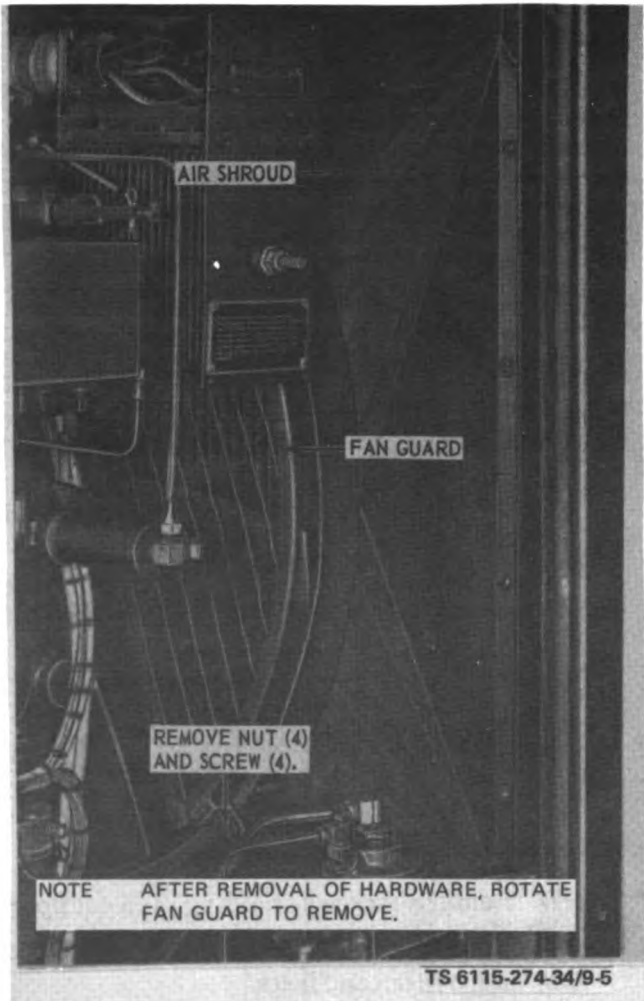

Figure 9-5. Fan Guard, Removal and Installation
- (1) Remove the radiator drainplug and drain the coolant into a suitable container.
- (2) Detach radiator hoses from radiator.
- (3) Remove screws and nuts attaching fan guard to air shroud (fig. 9-5).
- (4) Rotate fan guard and remove.